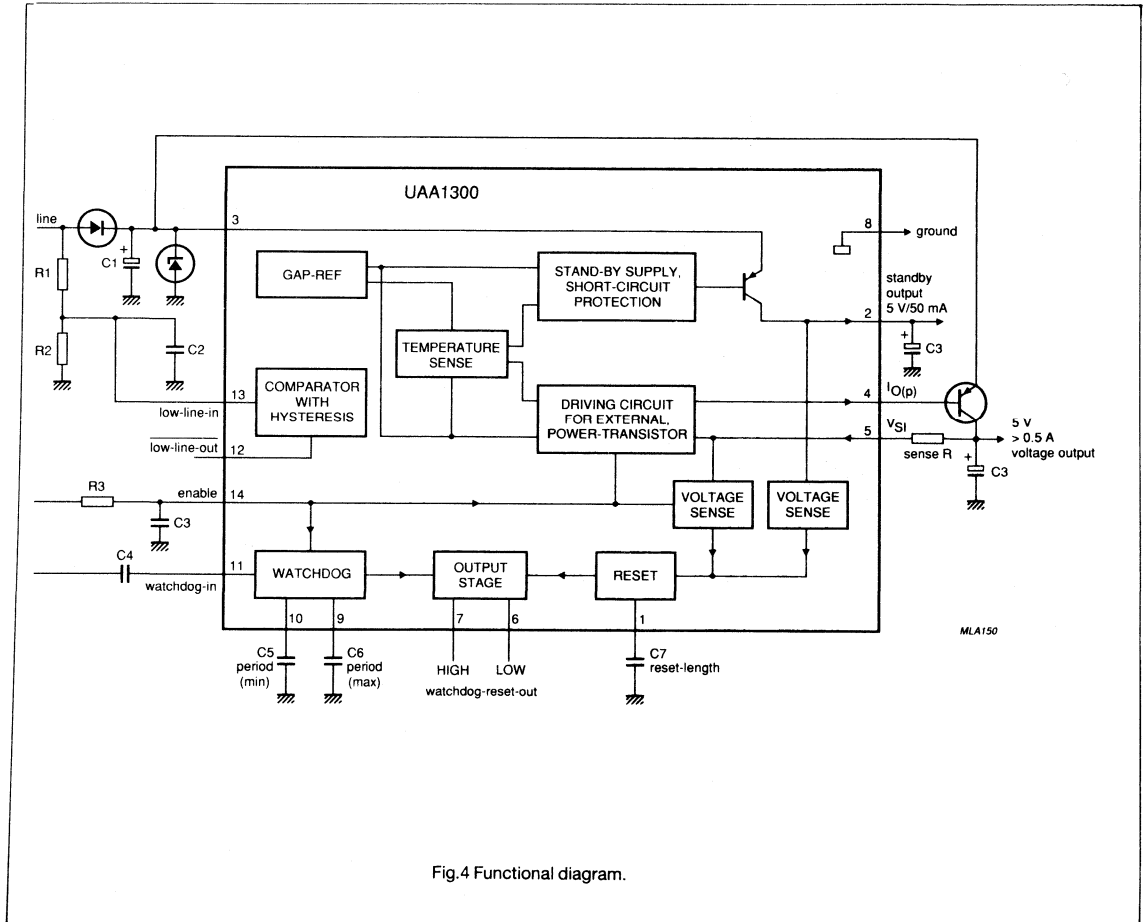

Fig.4 Functional diagram.
Output current $I_{O(p)}$ drives an external PNP power transistor when switched on by the enable input (EN). Voltage sense input (V_{S1}) regulates the current at the external power transistor. With $R = 0 \Omega$ the voltage is $5 V \pm 100 mV$. Using a resistor $> 0 \Omega$ the output will be regulated to a voltage $> 5 V$ (see Figs 4, 16, 17).
An additional external capacitor C2 prevents an initiation of an $\overline{\text{LLO}}$ pulse which might otherwise be caused by short duration (transient) LLI voltage drops (see Fig.4).